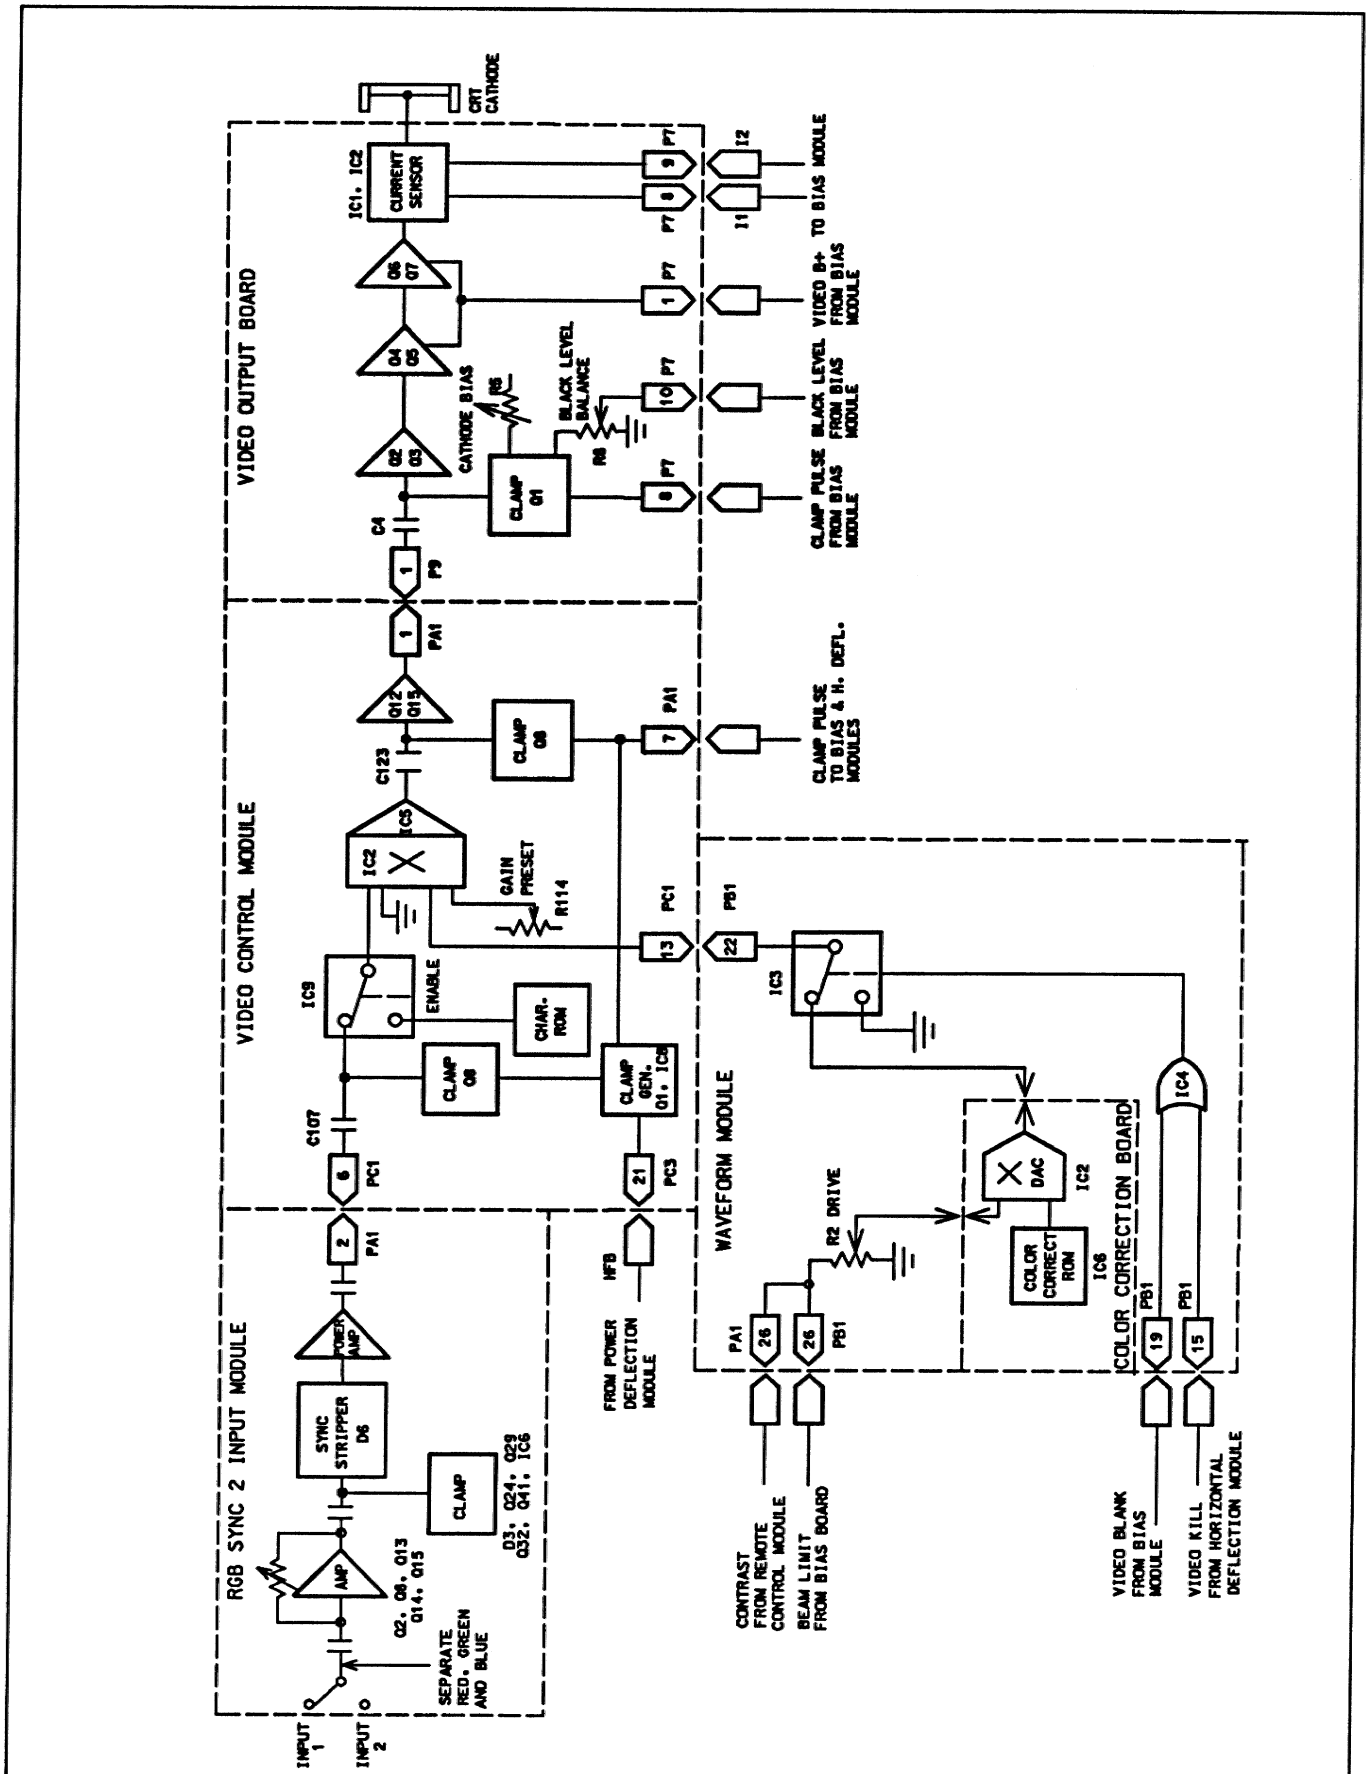

FIGURE 6-6. Video Path Block Diagram
- ③ *Video Path Block Diagram* (Figure 6-6)